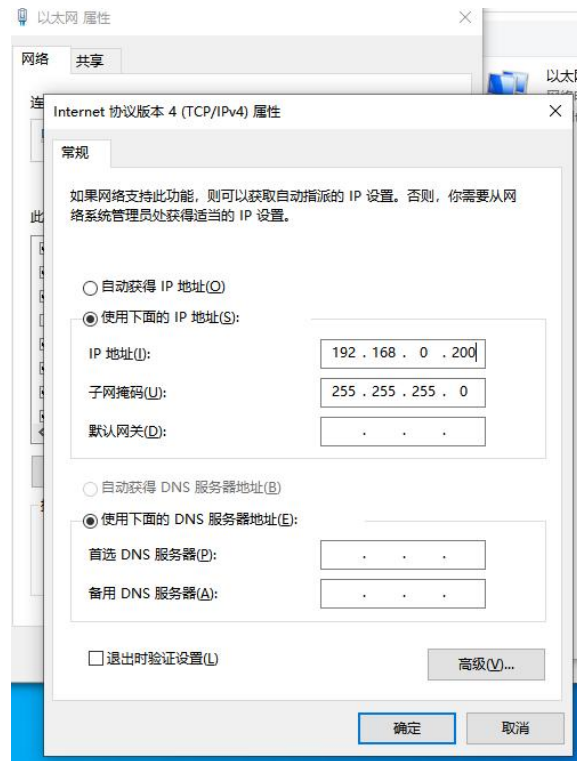

Figure 4-2
- The default IP address of the coupler is **192.168.0.1**, Therefore, the computer's gateway needs to be modified to 192.168.0.200 as shown in Figure 4-2 (the last byte address does not need to be repeated with the coupler and PLC).